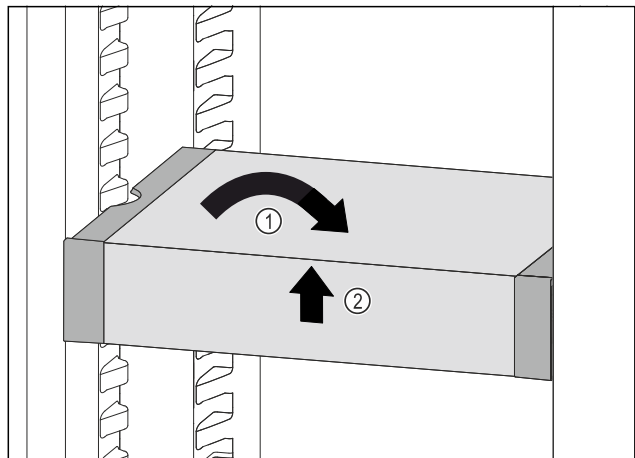

Fig. 74
- ▶ Set VarioSafe straight. Fig. 74 (1)
- ▶ Lift VarioSafe at the front. Fig. 74 (2)